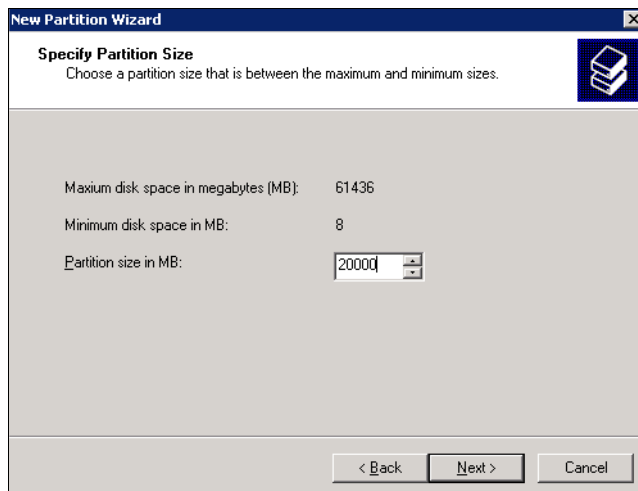

Figure 25-20 Enter disk space
9. Enter the size of the new partition in MB and click **Next** (Figure 25-20).